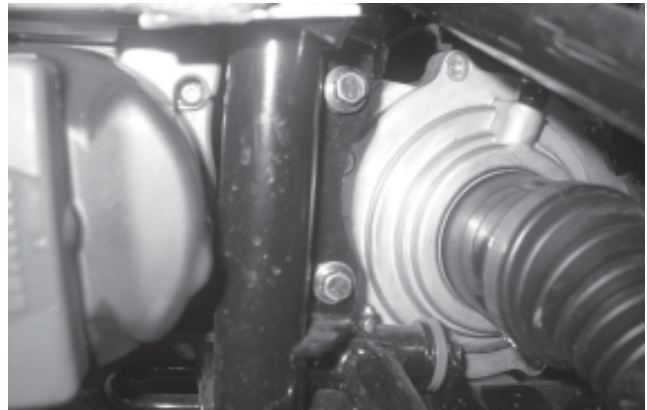

Figure 2
1. If using the Polaris winch mount, loosen the bolts securing the mount to the vehicle (Figure 2) so the winch mount is loosely attached. Remove the lower skid pan bolts. These will not be used in this kit.